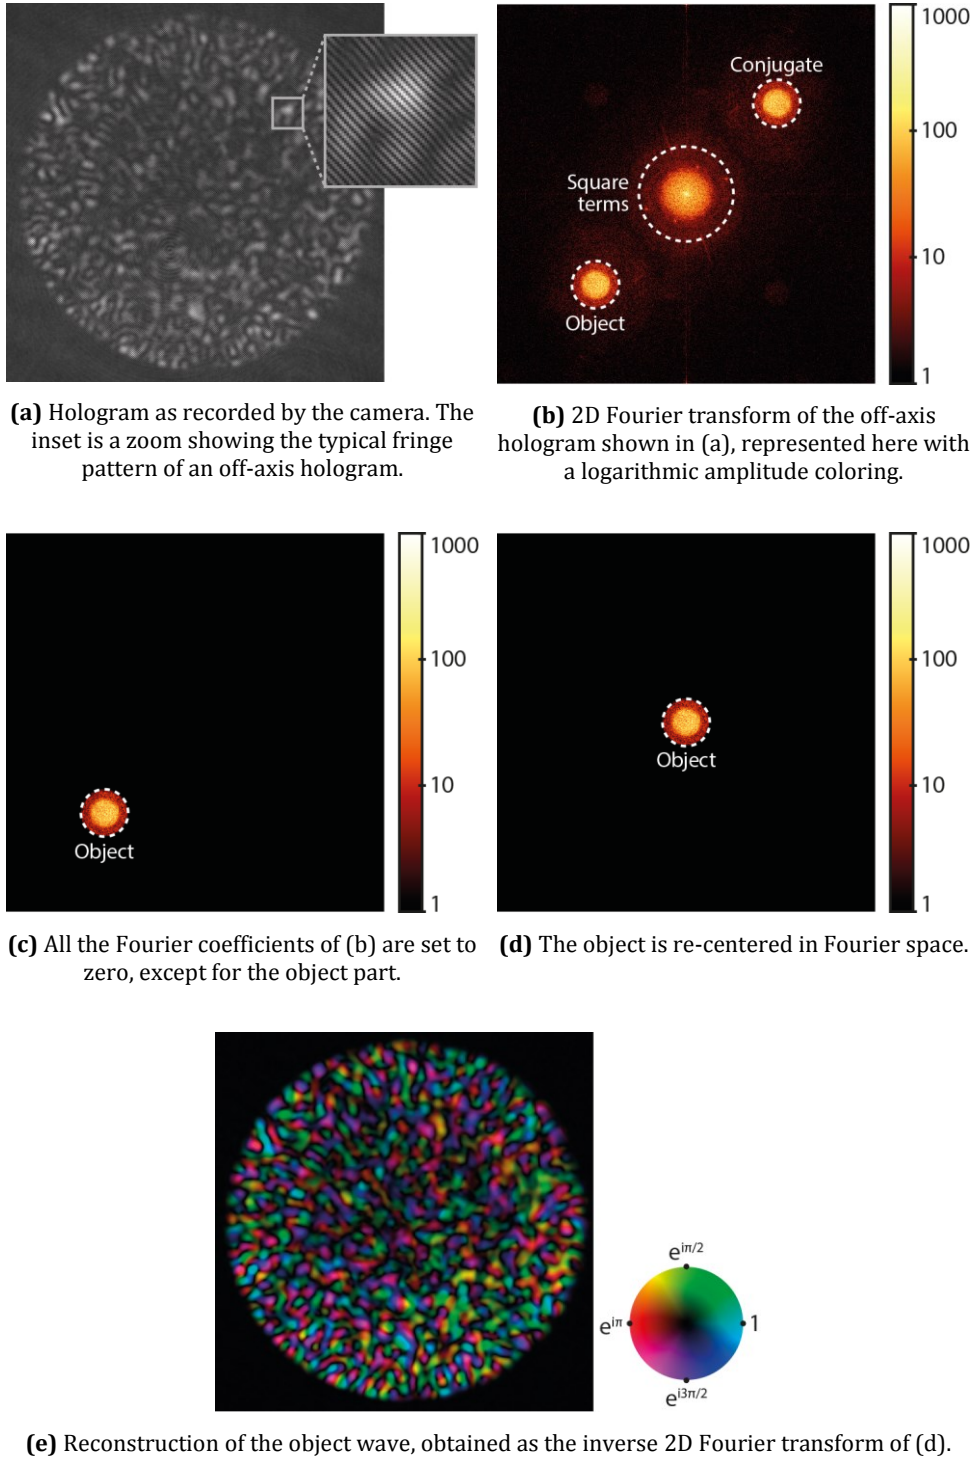

Figure 2: Digital reconstruction of an off-axis hologram
The typical interference pattern of an off-axis hologram is shown in Figure 2(a). In this example, the object wave is a random speckle pattern coming from an optical fiber. After taking the two-dimensional Fourier transform of this hologram, as in Figure 2(b), one can distinguish multiple separate regions. One of these regions contains the desired amplitude and phase information about the object wave. After isolating this term (Figure 2(c)) and correcting its location in the
Fourier domain (Figure 2(d)), the phase and amplitude distribution can be retrieved by inverse Fourier transform (Figure 2(e)).
- b) Write a MATLAB script to reconstruct your hologram and retrieve the amplitude and phase profile of the sample. Use the procedure outlined in section 3.2 and Figure 2. Include each step in your report. The following functions are at your disposal if necessary: